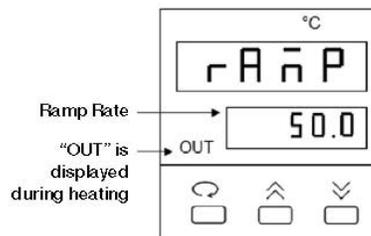

Fig. 2. Ramp Control Screen.
2. Use the ↻ key to display the ramp control screen. (Fig. 2.)